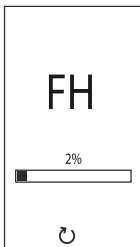

fig. 8 - Vent with fan on
- For the next 20 seconds the display will show FH which identifies the heating system air venting cycle with the fan running (fig. 8 - Vent with fan on).